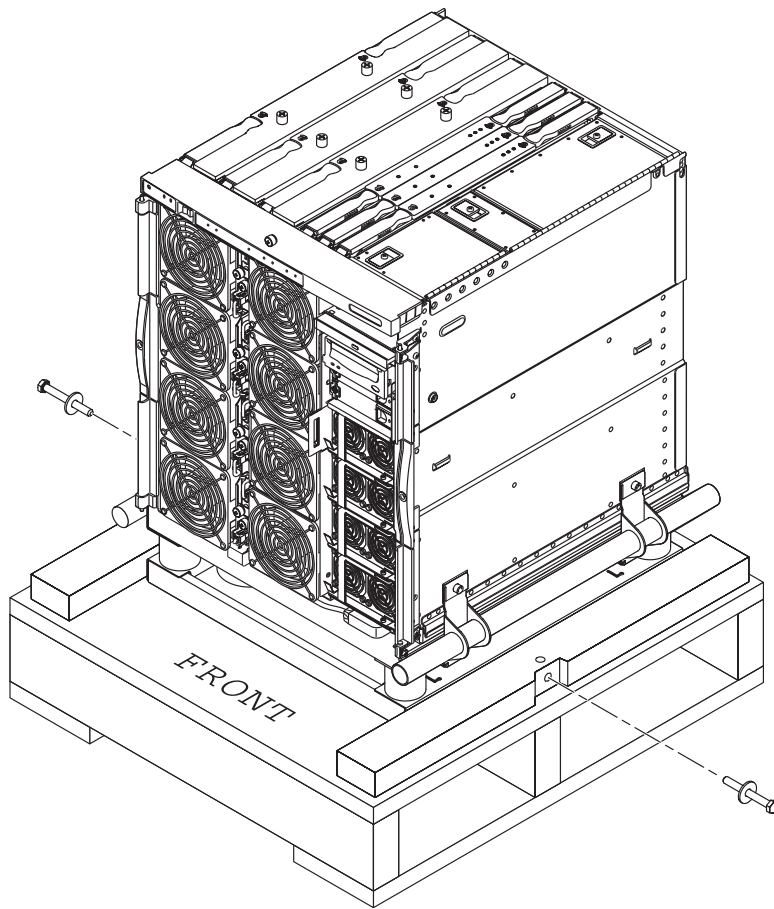

FIGURE 1-7 Removing the Shipping Cradle Bolts
2. Remove the shipping cradle bolts (FIGURE 1-7).